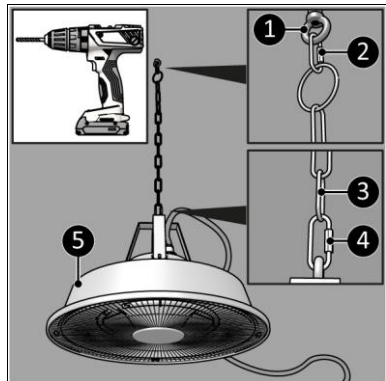

Figure 7
2. Place the key bolt with hanging eye in the hole (Figure 7, pos. 1).
3. Attach a karabiner hook (Figure 7, pos. 2) to the hanging chain (50 cm) and the key bolt with hanging eye (Figure 7, pos. 1).
4. Attach a karabiner hook (Figure 7, pos. 4) to the hanging chain (50 cm) (Figure 7, pos. 3) and the hanging eye of the device (Figure 7, pos. 5).
3. Attach a karabiner hook (Figure 7, pos. 4) to the hanging chain (Figure 7, pos. 3) and the hanging eye of the device (Figure 7, pos. 5).